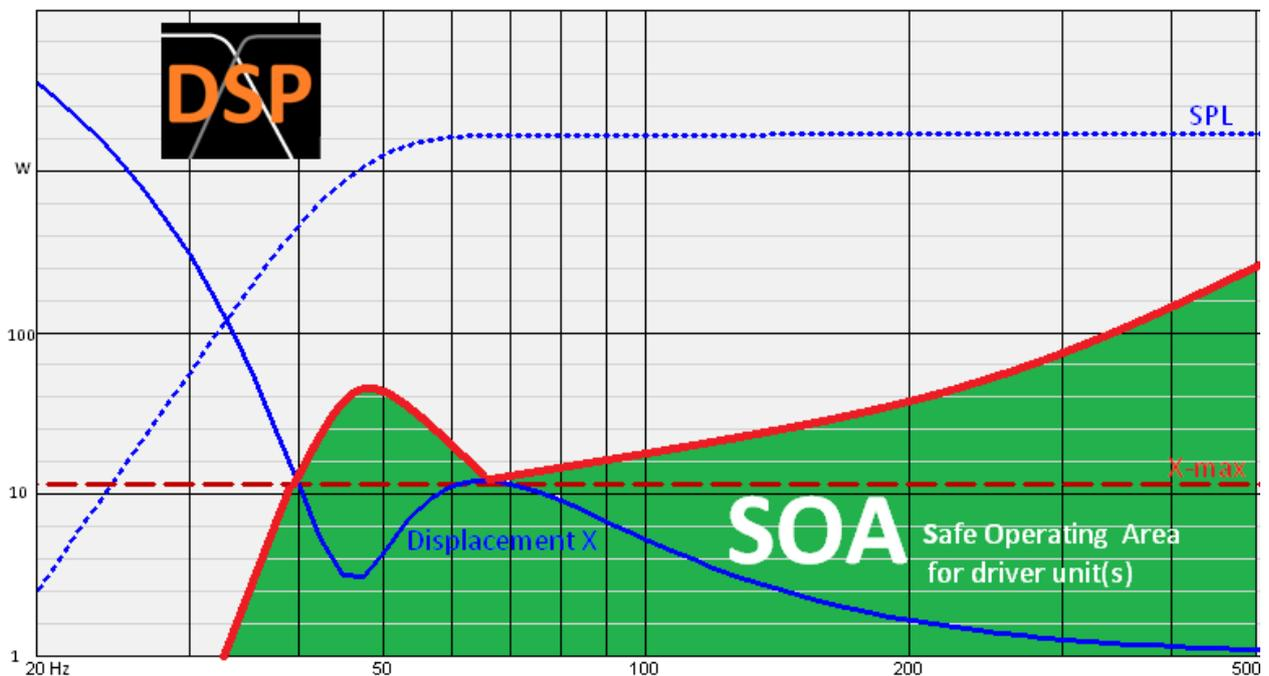

Figure 22- SOA (Safe Operating Area) for driver control with DSP
Unfortunately, the voltage to obtain Xmax for each driver depends very much on the frequency, see Figure 22.
Figure 22 shows the typical Voice Coil (VC) Displacement for a woofer in a bass reflex box or ABR system. The upper dotted blue curve is the bass frequency response, and the full blue curve is the typical (VC) Displacement of the woofer. Note that the Displacement is quite high at very low frequencies (<40 Hz), has a minimum around 45 Hz, shows a local maximum at 55 Hz, and decreases towards higher frequencies.